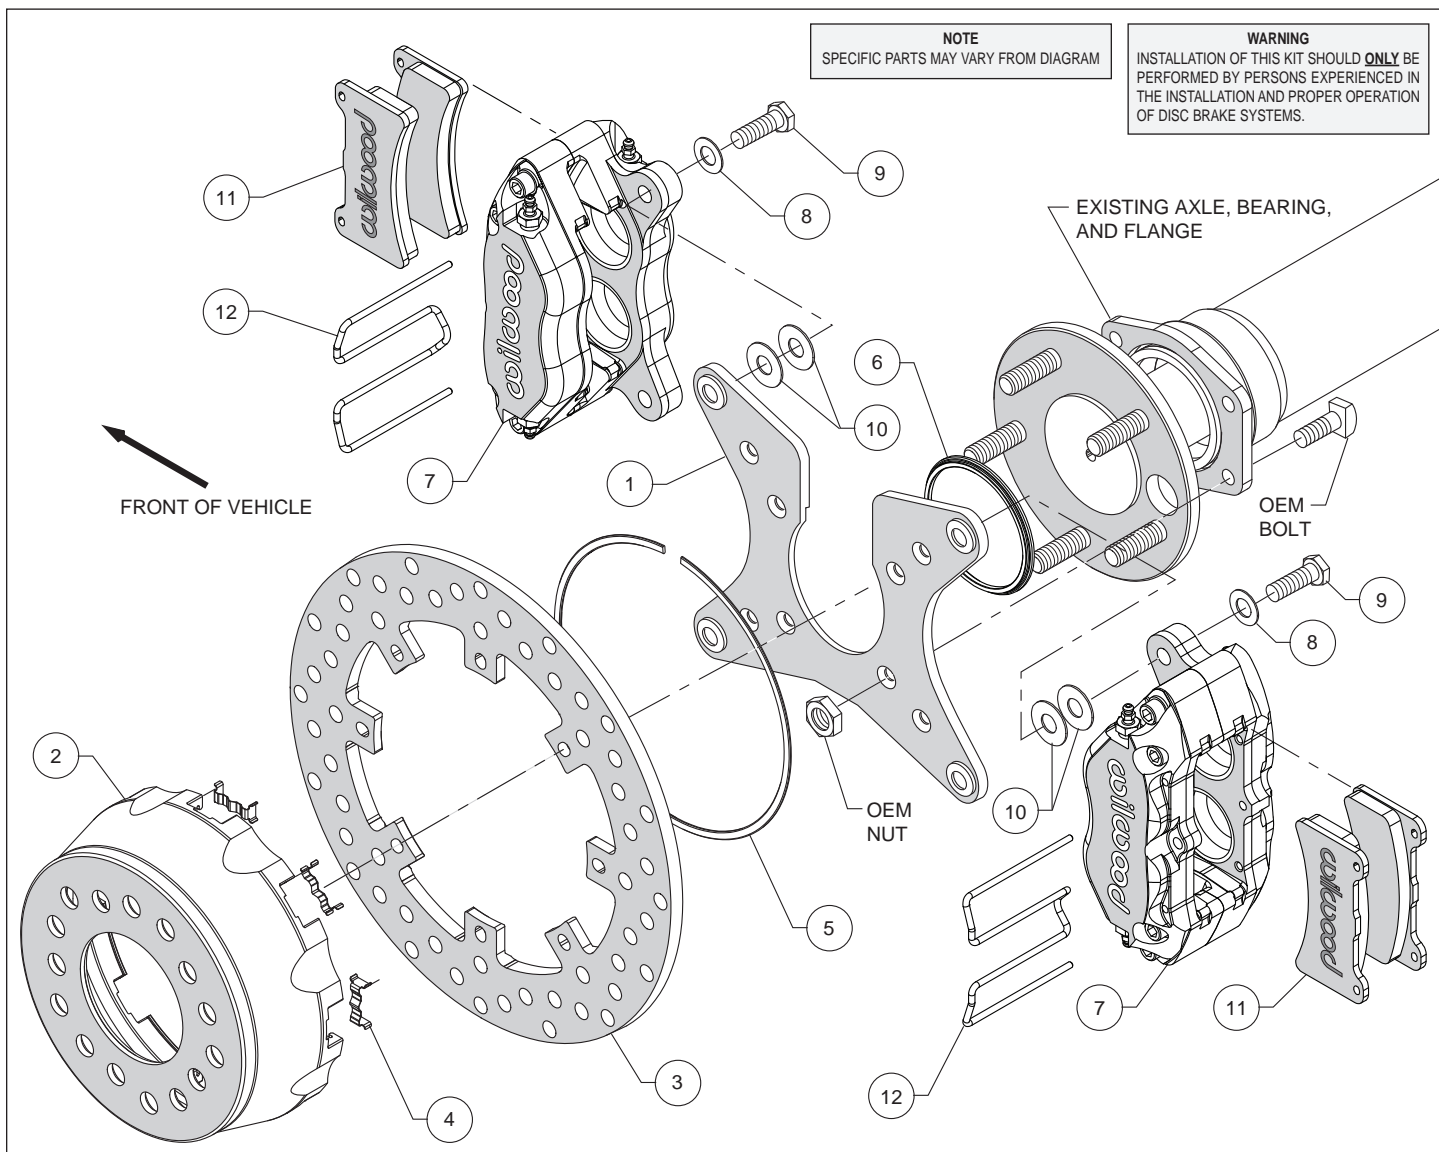
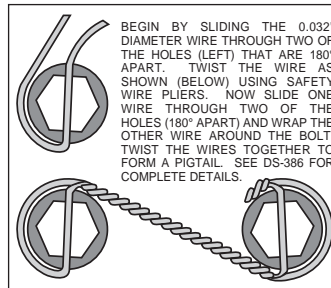
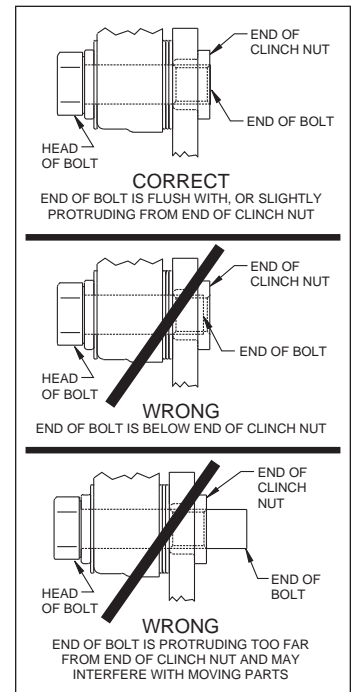

Figure 1. Typical Installation Configuration
Figure 4. Safety Wire Diagram
Figure 5. Clinch Nut Engagement Diagram
Assembly Instructions (numbers in parenthesis refer to the parts list and Figure 1 on the preceding pages): **CAUTION:** All mounting bolts must fully engage clinch nuts. Be sure to check that all bolts are either flush or protruding through flanged side of clinch nut after shiming, Figure 5.
- Install the caliper mounting bracket (1), with the slot for the axle pointing upward, to the housing flange using the OEM bolts and nuts, as shown in Figure 1 and Photo 1. Ensure that the caliper mounting ears on the bracket are oriented fore and aft on the car, with the heads of the clinch nuts facing outboard, Photo 1. Apply red *Loctite*[®] 271 to the OEM bolt threads and torque to OEM specifications.
- Insert the dynamic mount wear plates (4) into the slots in the hat (2) making sure the tabs snap in place, Photo 2. Orient the rotor (3) as shown in Figure 1 and Photo 3, with the flush mount tab side facing the hat. Attach the rotor to the hat using snap ring (5) by pushing down on the rotor and installing the ring into the groove in the hat, as shown in Photo 4. Ensure that the ring is fully engaged in the groove.
- Slide the rotor registration adapter (6) onto the axle register on the axle flange with the smaller O.D. facing toward the hat (2), Photo 5. Align the correct hole pattern in the hat with the axle stud pattern and slide the hat/rotor assembly onto the axle hub. **NOTE:** The hat must fit flush against the axle flange or excessive rotor run out may result. Install three lug nuts (finger tight) to keep the hat/rotor in place while continuing with the installation. **NOTE:** Some OEM and aftermarket axles come with stud sizes larger than 0.50" diameter. Verify stud size, and if necessary, have a qualified machine shop drill the hats to the correct size.
- **NOTE:** Please reference the caution statement at the beginning of the assembly instructions. Mount one caliper (7) onto the mounting bracket (1) using bolts (9) and washers (8), as shown in Figure 1. Initially place two .035" thick shims (10) on each bolt between the caliper and the bracket, Photo 6. Temporarily tighten the mounting bolts and view the rotor (3) through the top opening of caliper. The rotor should be centered in the caliper, Photo 7. If not, adjust the caliper by adding or subtracting shims between the bracket and the caliper. Always use the same amount of shims on each of the two mounting bolts. **NOTE:** The end of each bolt must be flush with or slightly protruding from the
head of the clinch nut. If necessary, place spare shims between washer and caliper mounting ear to achieve the proper clinch nut engagement, as shown in Figure 5. Once the caliper alignment and clinch nut engagement are correct, remove the bolts one at a time, apply red *Loctite*® 271 to the threads, and torque to 40 ft-lb. For an added measure of security, the bolts may be safety wired using standard 0.032 inch diameter stainless steel safety wire as shown in Figure 4. Please refer to Wilwood's data sheet DS-386 (available at www.wilwood.com/Pdf/DataSheets/ds386.pdf) for complete safety wire installation instructions. Repeat this procedure for the second caliper.